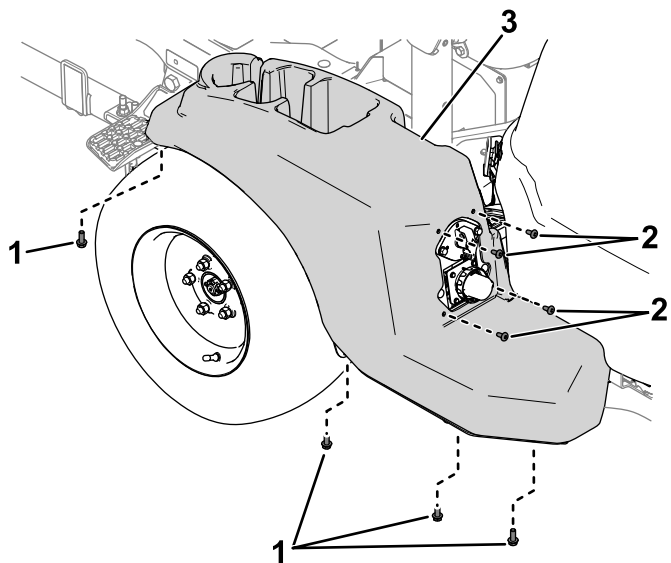

Figure 4
3. Use the previously removed screws and bolts to secure the cover to the left side of the machine (Figure 4).